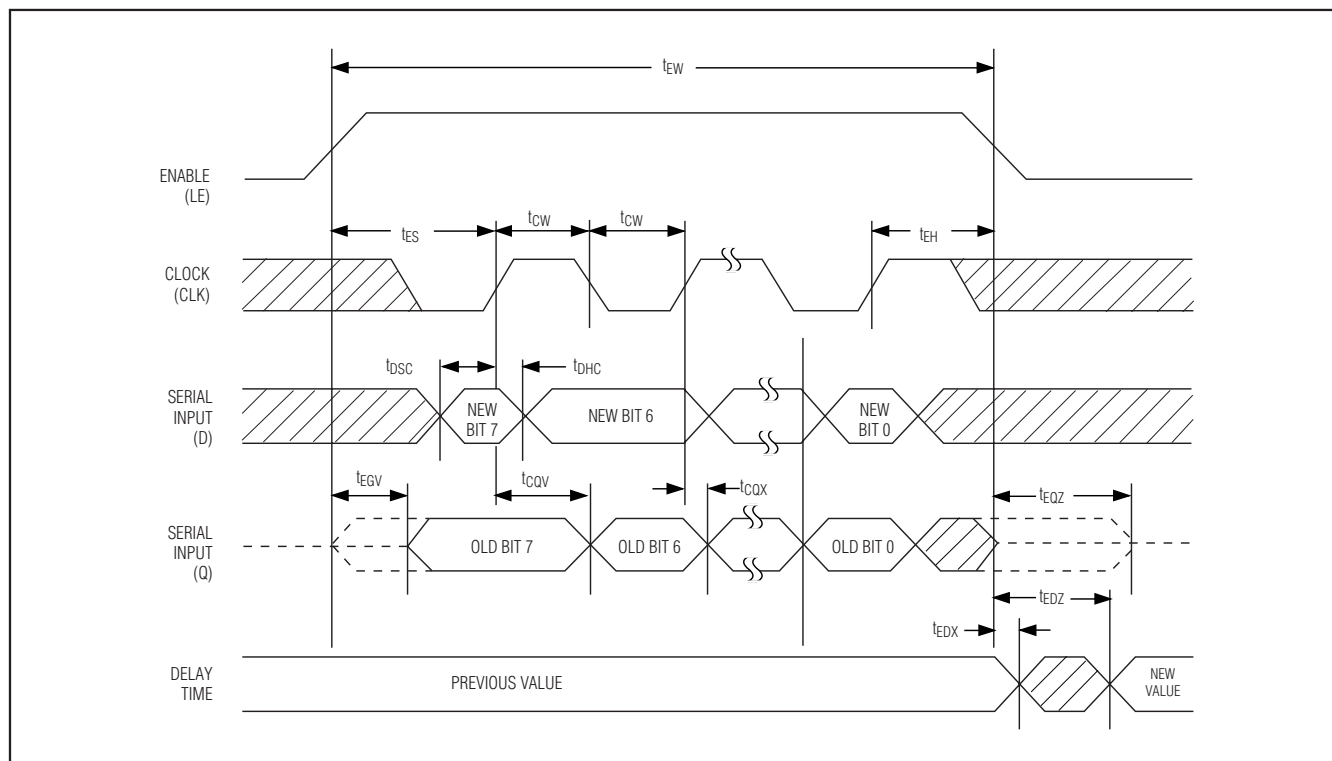

Figure 6. Serial Interface Timing Diagram
The 3-wire serial interface is enabled by connecting \bar{P}/S to V_{CC} . Serial mode operates similar to a shift register. When LE is set at a high logic level, it enables the register and CLK clocks the data, D, into the register one bit at a time starting with the most significant bit. After all 8 bits are shifted into the DS1123L, LE is pulled low to end the data transfer and activate the new value. A settling time (t_{EDV}) is required before the signal delay meets its specified accuracy. A timing diagram for the serial interface is shown in Figure 6. The 3-wire interface also has an output (Q) that can be used to cascade multiple 3-wire devices, and it can be used to read the current value of the devices on the bus.